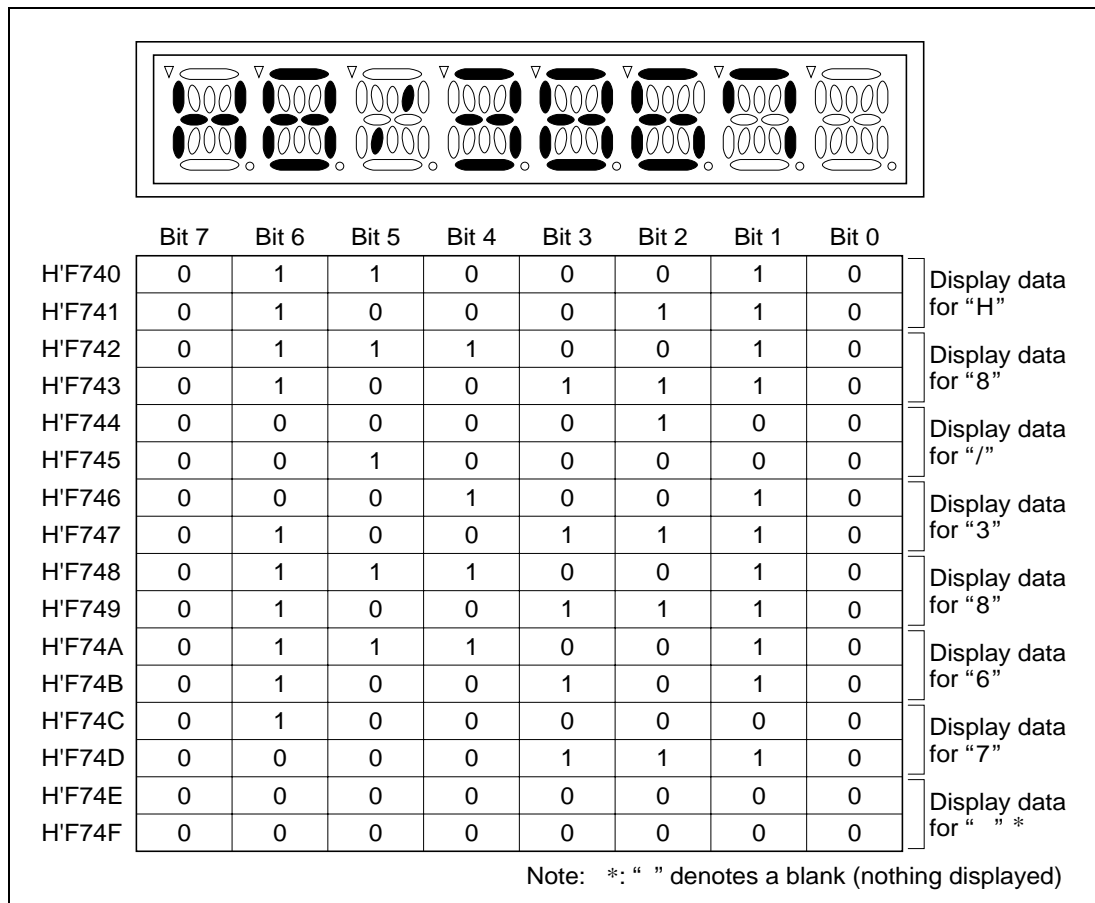

Figure 5 Relation between LCD Display and LCD RAM Settings
6. Figure 5 shows the relation between the 16-line 8-character segment LCD display and LCD RAM settings used in this task example. As shown in the figure, by setting the LCD RAM appropriately, "H8/3867" is displayed on the 16-line 8-character segment LCD.